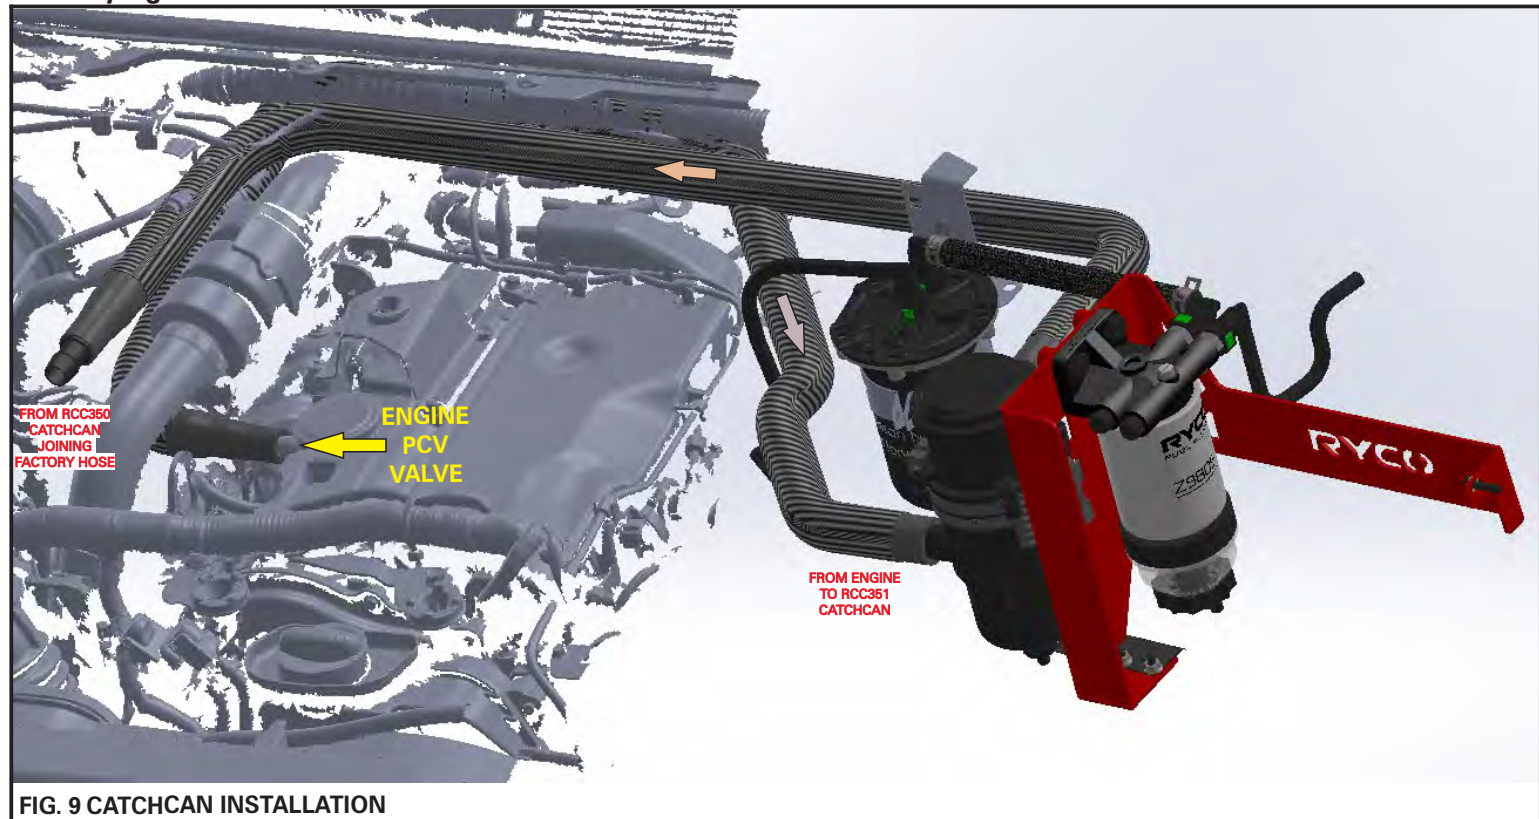

FIG. 9 CATCHCAN INSTALLATION
4. Install the elbow end of Ryco MH9809A moulded hose onto the engine PCV valve and secure with a supplied hose clamp (MS4092, ID 23mm). Feed it along the back of the engine ensuring it also runs under the factory fuel pipe, as per Fig. 9. Connect the larger end to the lower port of RCC351, securing with a supplied large (MS4091, ID 29mm) hose clamp .